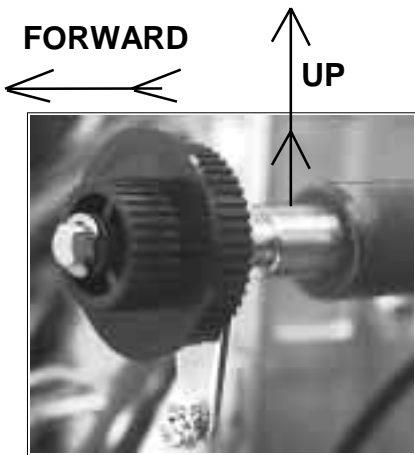

Fig. 6-43
9.	Displace platen by tilting up and forward from the hole in the frame and releasing from ball supporter on opposite end of shaft. Separate the platen and components for replacing. Fig.6-43